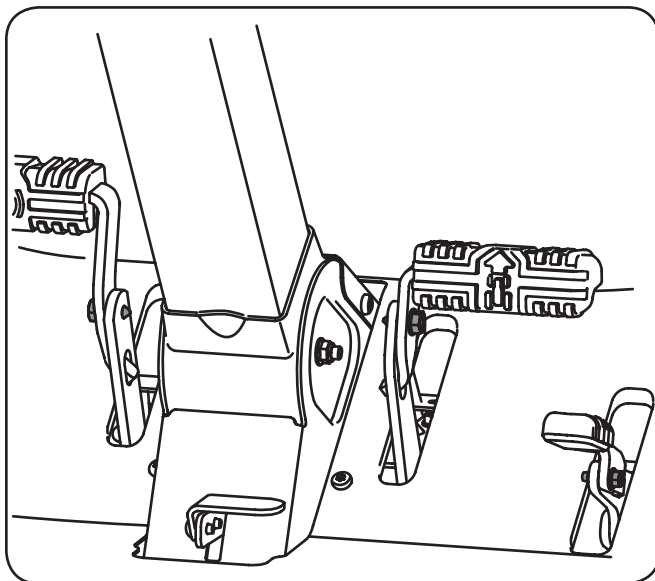

Figure 1-4
- The three pedals on the RZT-S/Z-Force SZ will also have to be removed to get the floor board off the tractor. The drive/reverse pedals are secured with a hex screw and the brake pedal is secured by a hex screw and flange lock nut. See Figure 1-4. Remove the screws and the pedals.